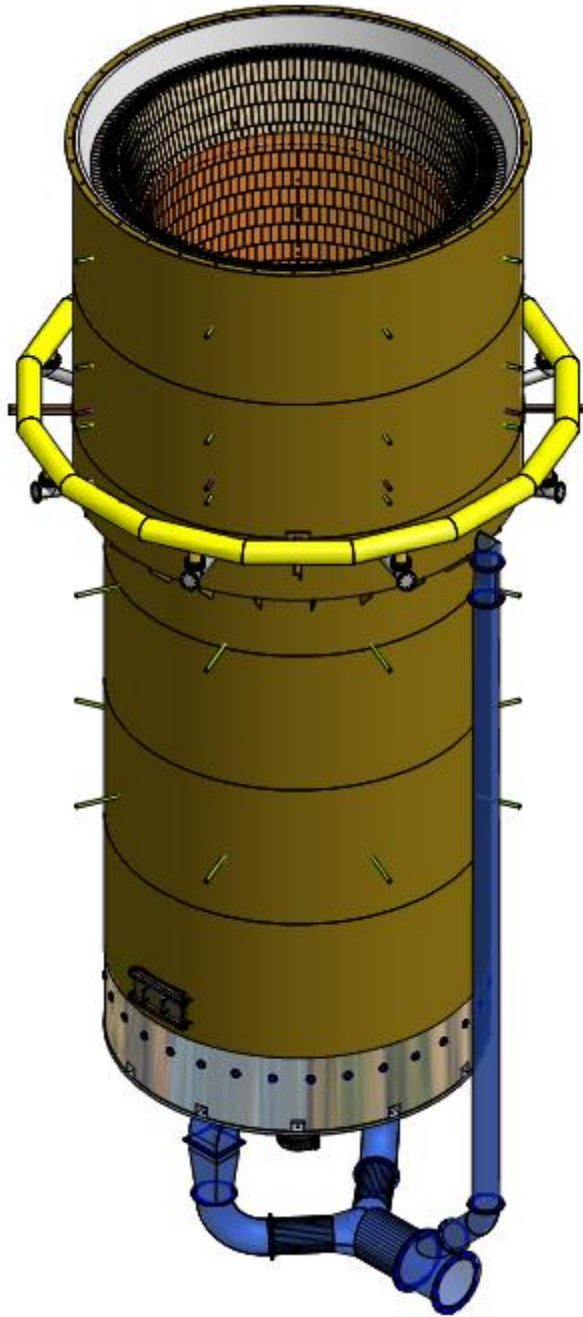

Fig 1: A MD-VSK Kiln: Note the air-pipes and the thermocouples
- ✓ In case the fire is low on one side (because the airflow is obstructed by some **Cold Clinker Lumps** at the bottom of the MD-VSK) then we can open the air from the pipes located near the top of the kiln. (See Fig 1: Design of the MD-VSK.)